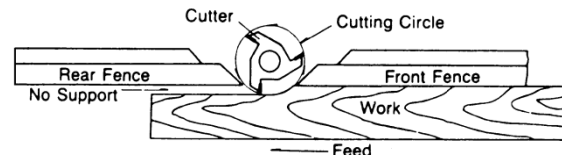

Figure 11
2. When removing the entire edge of the work piece (i.e., jointing or making a full bead), the shaped edge will not be supported by the rear fence when both fences are in line (see Figure 11). In this case, the work piece should be advanced to the position shown in Figure 11 and stopped.